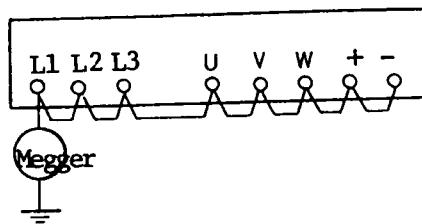

Fig. 26 Insulation Resistance Test and Withstand Voltage Test
- d. Insulation resistance (See Fig. 26.)
As shown in Fig. 26 below, short-circuit the terminal, and conduct the test under the following conditions.
- For withstand voltage test, apply 1500 VAC (200 V class), or 2000 VAC (400 V class) between Fig. 26 terminal and earth for one minute: Check that the no abnormality is found.